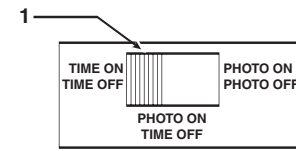

Figure 1
- 1) **In Time ON/Time OFF Mode**, (Figure 1) the channel is controlled by timer functions and light level is irrelevant. All events are executed by timer schedule. For programming the timer, refer to section 6.0.